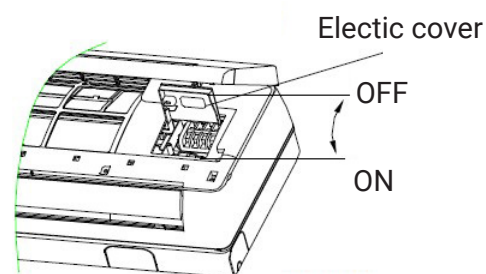

Fig. 12
- Loose the screw at connection lid. (Fig.12)